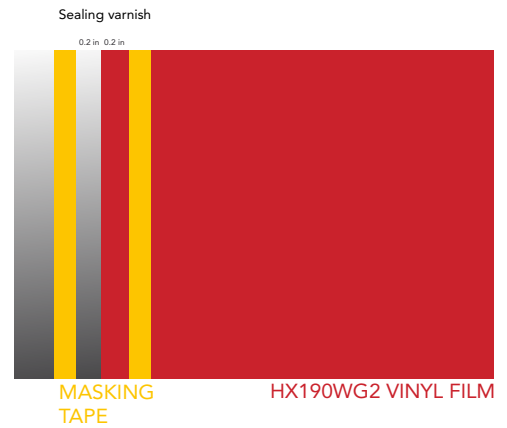

Fig.26
- 1 on the HX190WG2 at 5 mm (0.2 in) from the edge (FIG. 26).